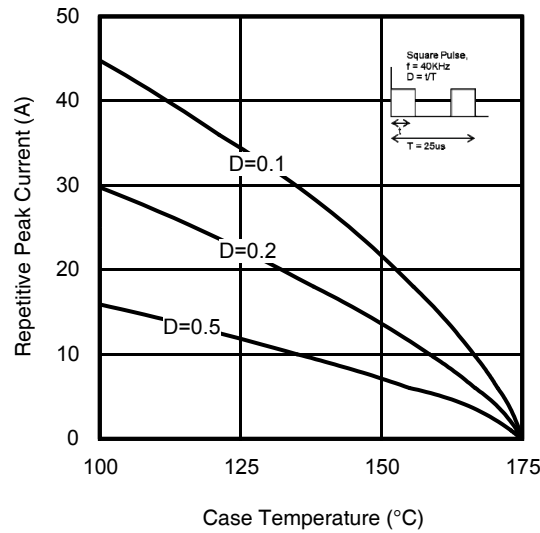

Fig. 26. Maximum Diode Repetitive Forward Peak Current vs. Case Temperature
- ① V_{CC} = 80% (V_{CES}), V_{GE} = 20V, R_G = 22Ω, L=620μH.
- ② R_θ is measured at T_J of approximately 90°C.
- ③ Refer to AN-1086 for guidelines for measuring V_{(BR)CES} safely.
- ④ Pulse width limited by max. junction temperature.
- ⑤ Values influenced by parasitic L and C in measurement.
- ⑥ f_{sw} = 40KHz, refer to figure 26.